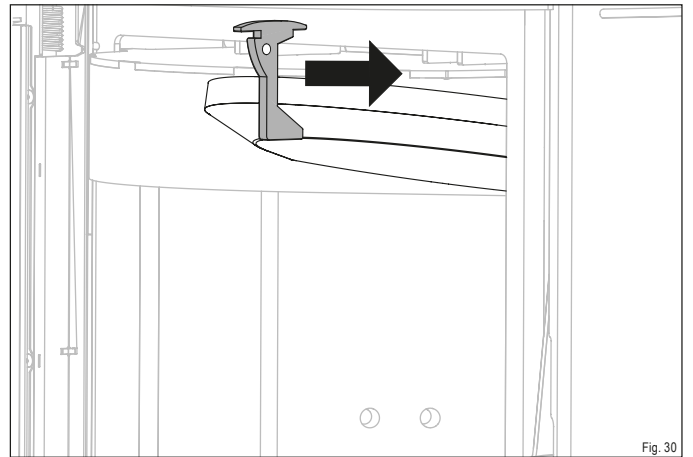

Fig. 30
- ▶ Slide the firebrick retainer forward (Fig. 30).